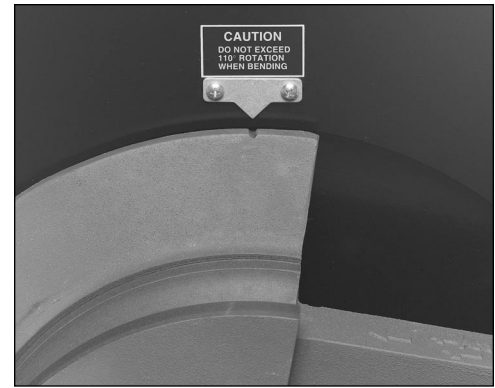

Figure 5 1 1/4 and 2 in. (32 and 50 mm)
1. Press the BEND or UNLOAD function key. Rotate the bend shoe until the proper reference notch on the bend shoe is aligned with the pointer on the faceplate. (See Figures 5 and 6.) Note the difference in appearance of the bend shoe in each figure. The tube clamp should hang vertically from the bend shoe.